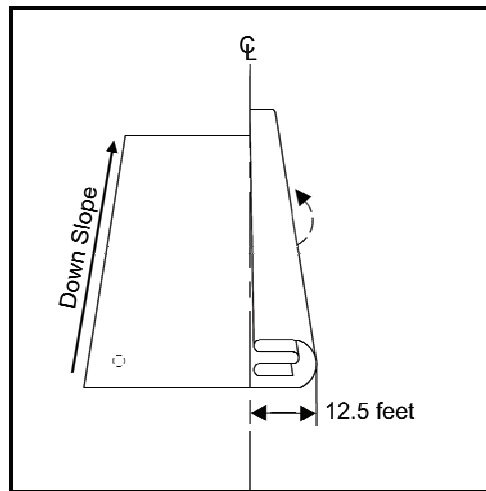

Figure 17. Folding the edge to center, 3rd time.
4. Fold the folded edge to center, again (Figure 17).